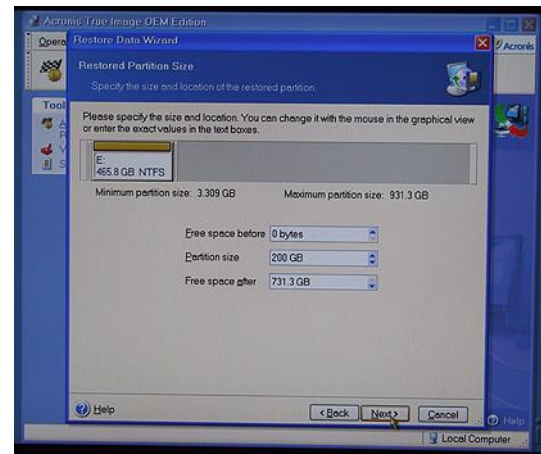

Figure 3-64
- 28) Select the **Active** item and then click the **Next** button to be presented with the **Restored Partition Size** page (Figure 3-64).